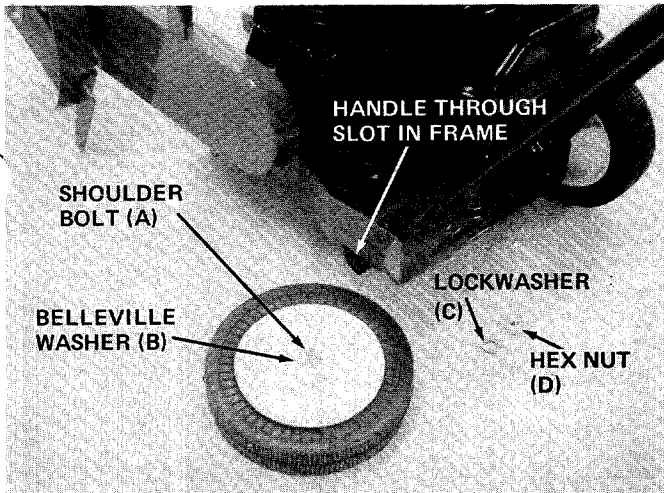

FIGURE 3.
2. Place lower handle into the slots in the rear frame. See figure 3.
3. Line up holes in handle with holes in frame. See figure 3.
4. Secure rear wheels (P) and lower handle (M) to frame with shoulder bolts (A), belleville washers (B), lock washers (C) and hex nuts (D). See figure 3.